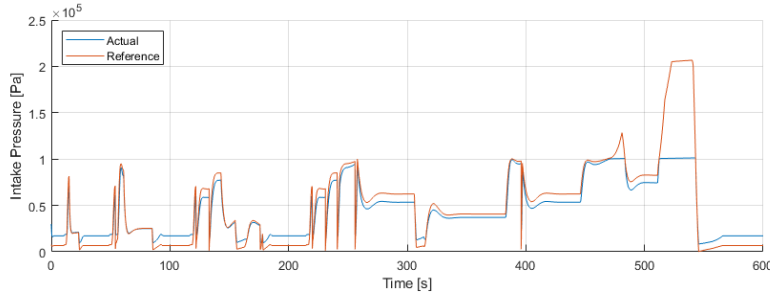

Figure 11: Intake manifold pressure and reference with only feedforward.
- Run the simulation with only throttle feedforward. Verify that your actual intake manifold pressure and your computed reference are close when the pressure is below 1 atm. Compare your result with Figure 11.